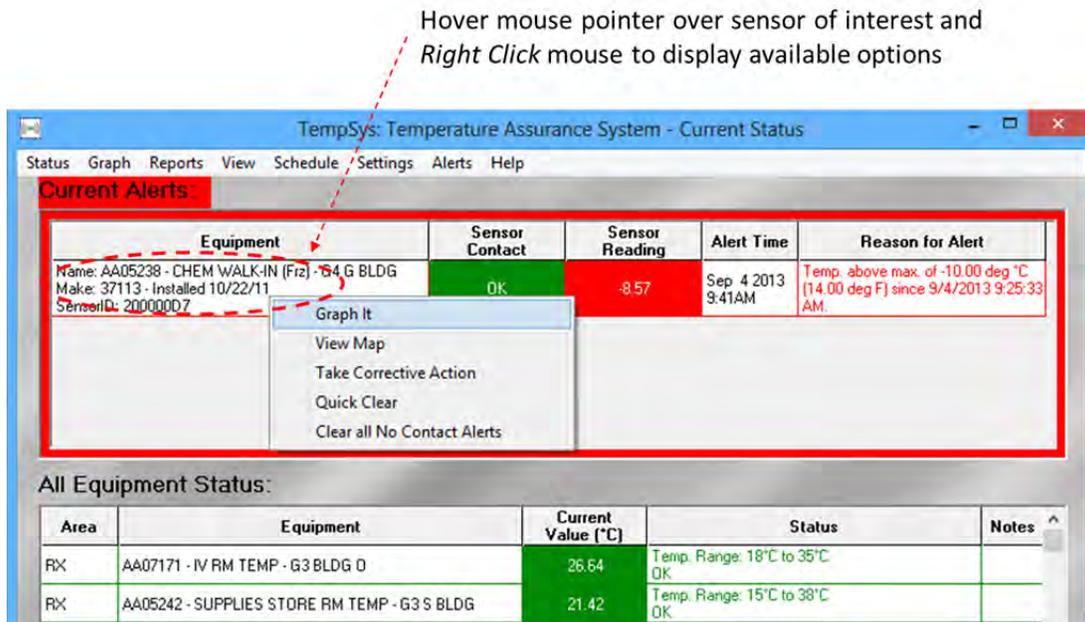

Figure 4 - Right Click Mouse to Address Current Alert
3. Place mouse pointer over the sensor of interest and *Right Click* to display available options to address an active alert in the Current Alerts window (Figure 4).